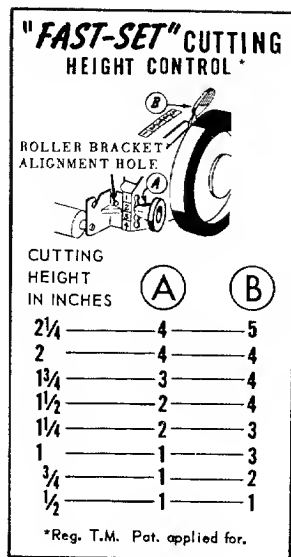

FIG. 3 A
1. Consult the chart located on underside of handle cover, the roller adjusting knobs (A) and wheel adjusting levers (B) must be in positions shown for desired cutting height. EXAMPLE: for 1½" cutting height roller knob must be in No. 2 position, and wheel lever must be in No. 4 position. (Fig. 3 and Fig. 3A)